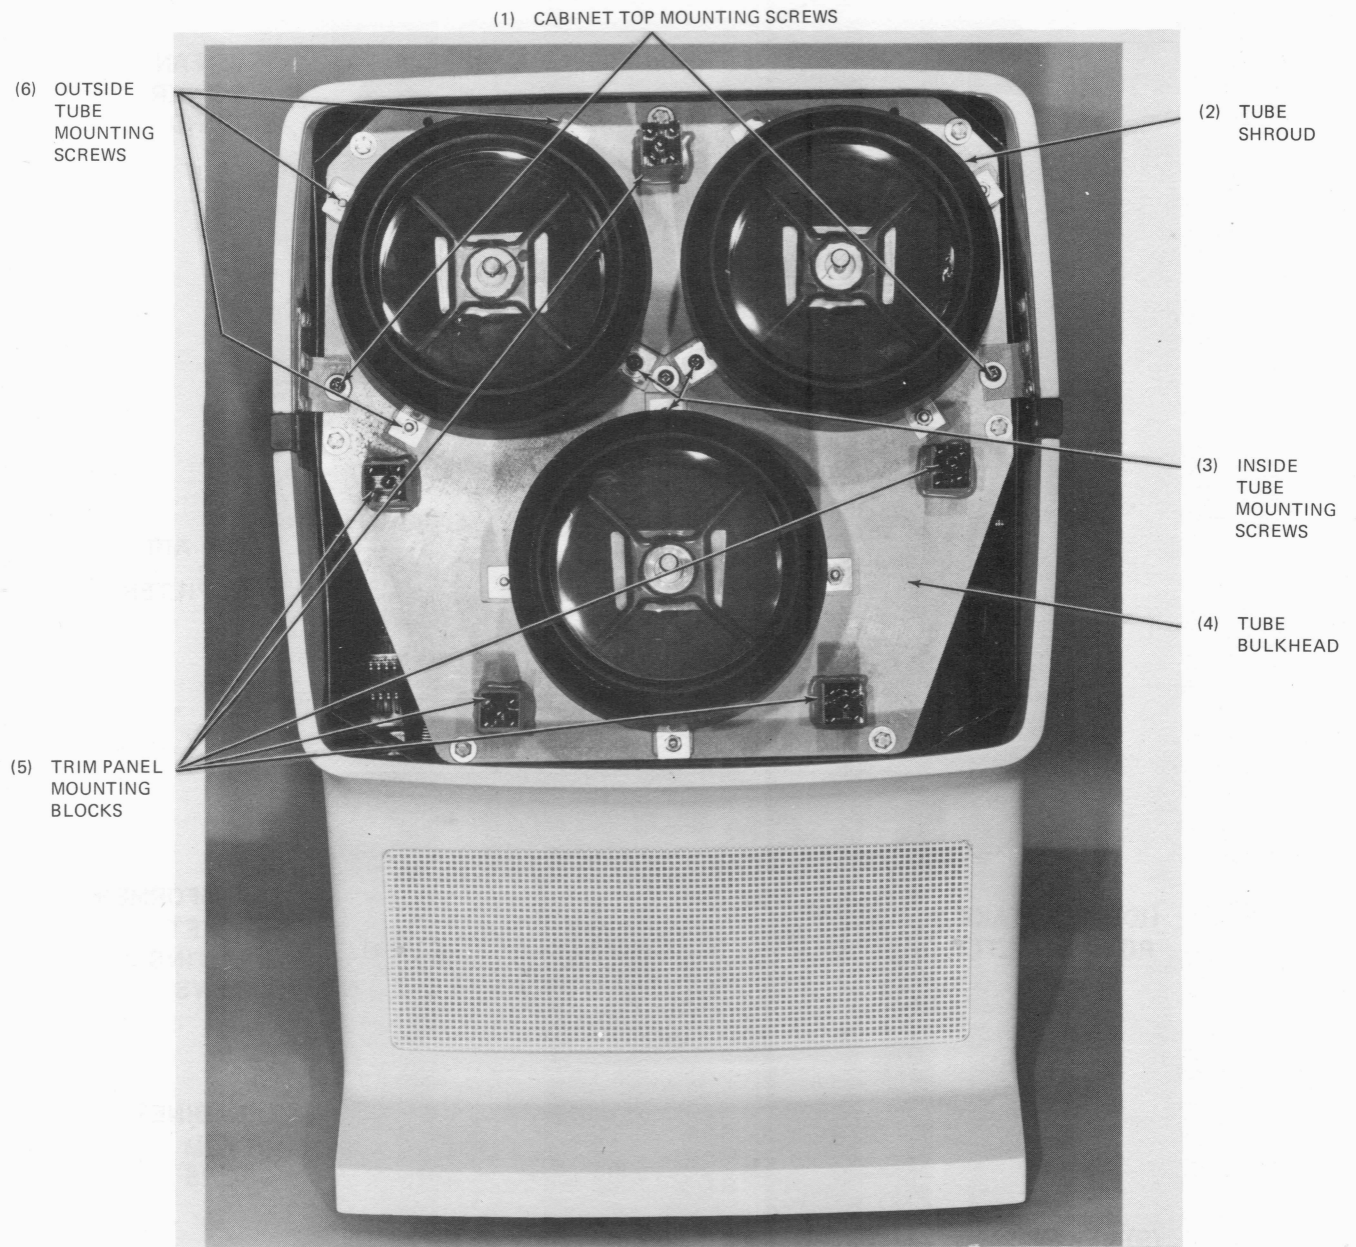

Figure 4-2. FRONT VIEW WITH FACE TRIM REMOVED
NEVER USE REMOVAL HOOK AROUND SHROUDS (2, FIGURE 4-2) OF TUBES.
2. Remove the four (4) Phillips screws in the corners of the tunnel assembly (bottom rear of set).
3. Remove the two (2) Phillips screws (1, Figure 4-2) from the tube Bulkhead (4, Figure 4-2).
4. Loosen the three outside Tube Mounting Screws (6, Figure 4-2) on the Tube Bulkhead (4, Figure 4-2).
5. Remove the Inside Tube Mounting Screw (3, Figure 4-2) nearest the center of the bulkhead.